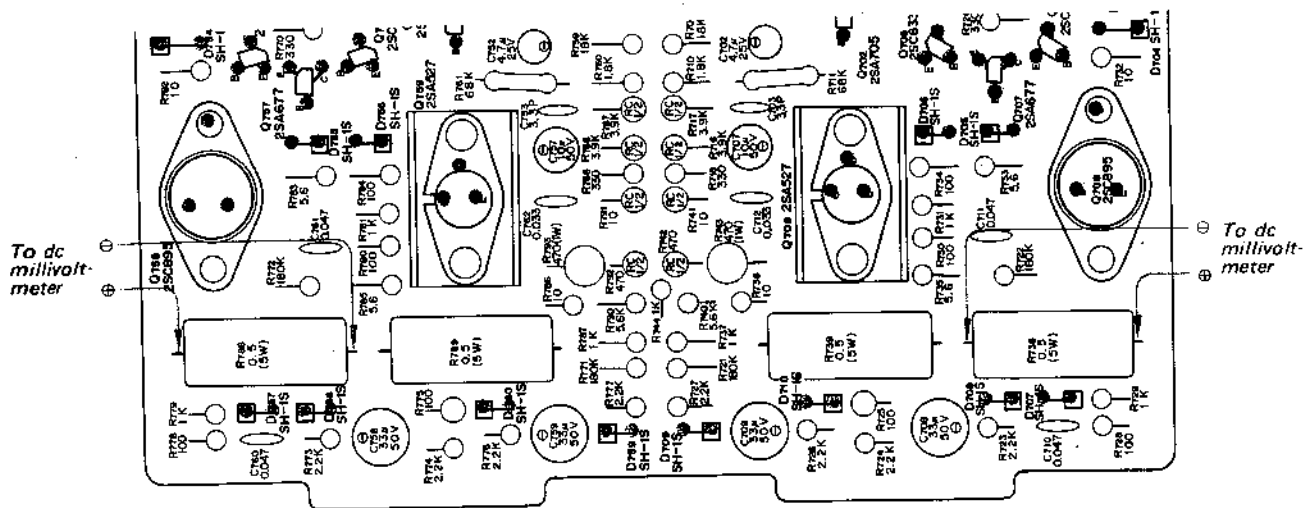

Fig. 3-13. Dc millivoltmeter connection
To avoid accidental power transistor damage, increase the ac line voltage gradually, using a variable transformer, while measuring the voltage across emitter resistor R738 or R788 as shown in Fig. 3-13.
2. Connect the dc millivoltmeter across emitter resistor R738 or R788 as shown in Fig. 3-13.